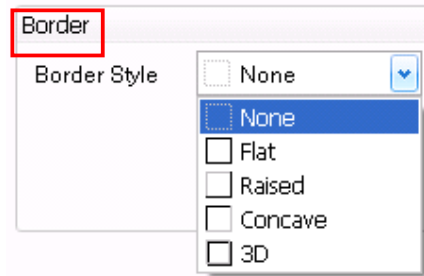

Figure 6.2.1
- Click on the object, and then the following screen shows as figure 6.2.1. Users could set the style of border directly.